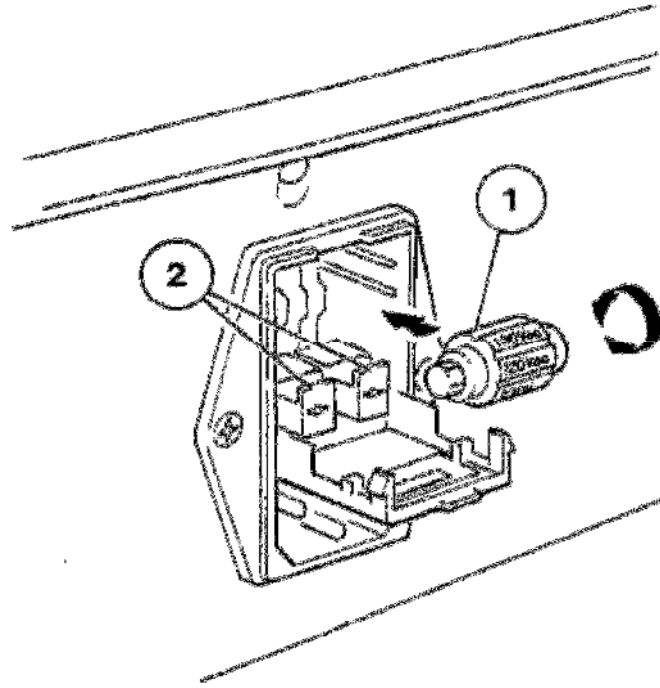

Figure 2.5 Voltage Selector
11. Check that the voltage shown on the voltage selector is correct for the local supply. If it is not, open the voltage selector compartment. Slide the voltage selector bobbin, item 1, Figure 2.5 out of the instrument and replace it so that the required voltage setting will be visible through the window of the compartment cover. Close the compartment cover.